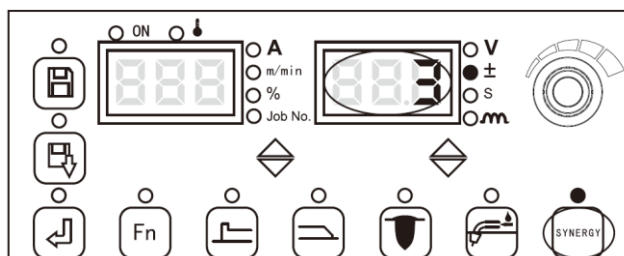

Figure 3-6 Display for matched voltage modification value under Synergic mode
2. Switch to Synergic voltage modification value “±” by **Right cycle switching key**, and when the indicator is on or flashing, by adjusting the voltage key on the wire feeder or the panel knob on welding power source, the automatically matched voltage may be slightly adjusted, as shown in Figure 3-6. By **Right cycle switching key**, view the matched voltage and arc modification value.